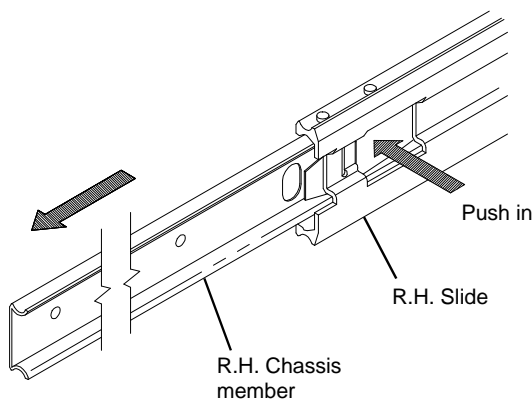

Figure 6
6. To remove the shelf and chassis rail, refer to **Figure 6**.